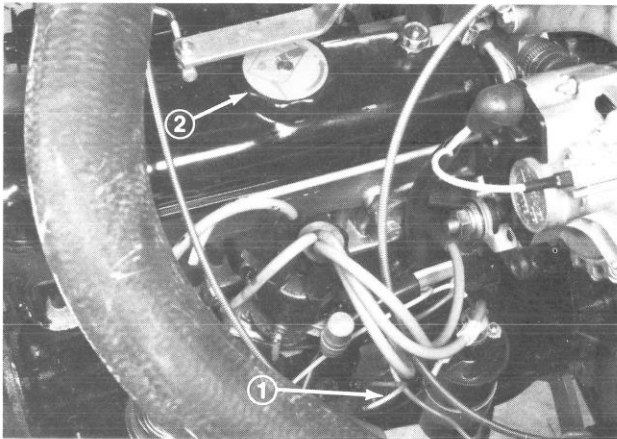

Figure 15
3. Remove dipstick and wipe it with a clean rag. Push dipstick down into the tube and ensure it is seated fully. Pull dipstick out of the tube and check level of oil. If oil level is low, remove filler cap (Fig. 15) and add enough oil to raise level to top of flat at end of dipstick. **DO NOT OVERFILL.**